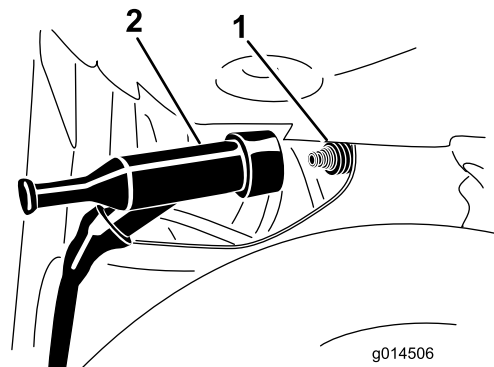

Figure 29
3. Pull the spark-plug wire off the terminal of the spark plug (Figure 29).
- Push the spark-plug wire onto the terminal of the spark plug (Figure 29).